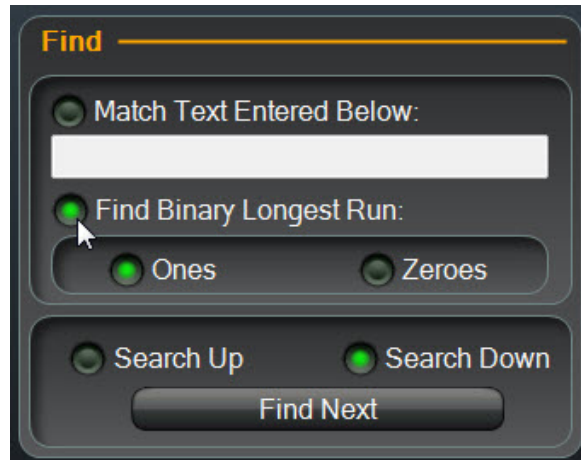

Figure 89. Finding longest run of ones or zeroes
4. Click on the **Find Next** button to begin the search. Refer to Figure 89.